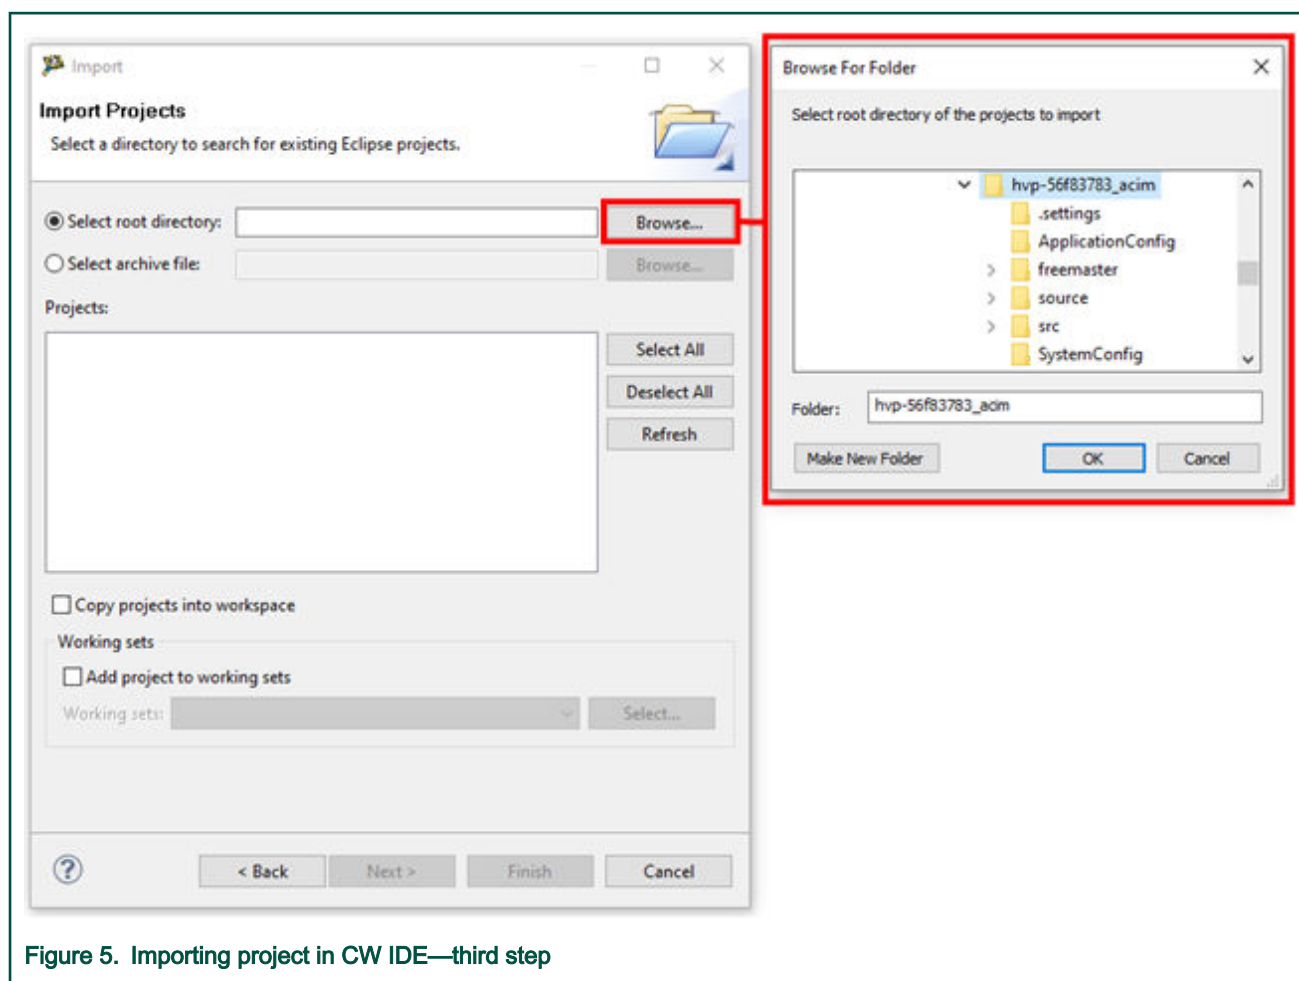

Figure 5. Importing project in CW IDE—third step
- The “Import” window opens (as shown in Figure 5). Click the “Browse” button, and then locate the project. Click the “OK” button.